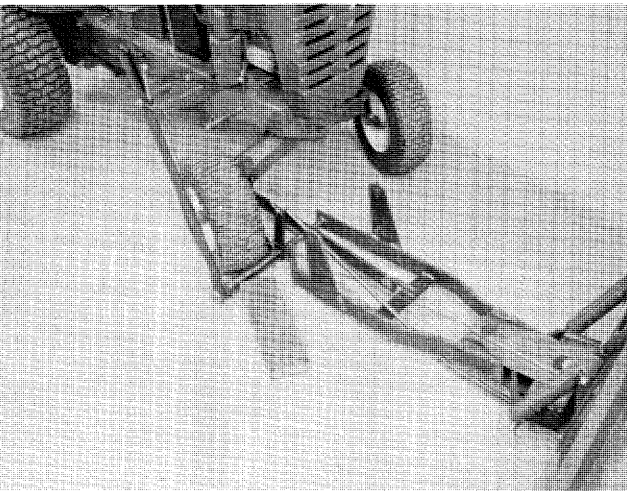

FIGURE 5
7. Drive the tractor up to the blade as shown in figure 5. Place a short piece of 2 x 4 in front of the right wheel. Drive the tractor up over the indexing